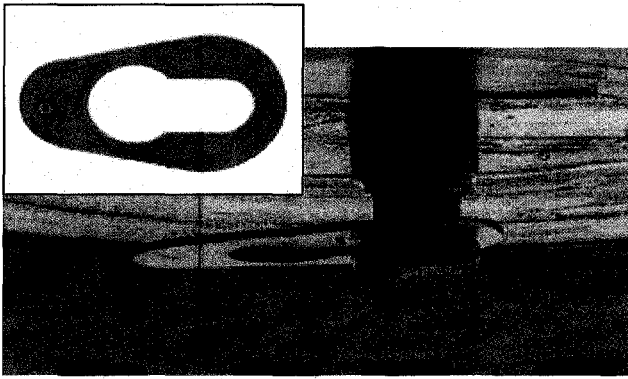
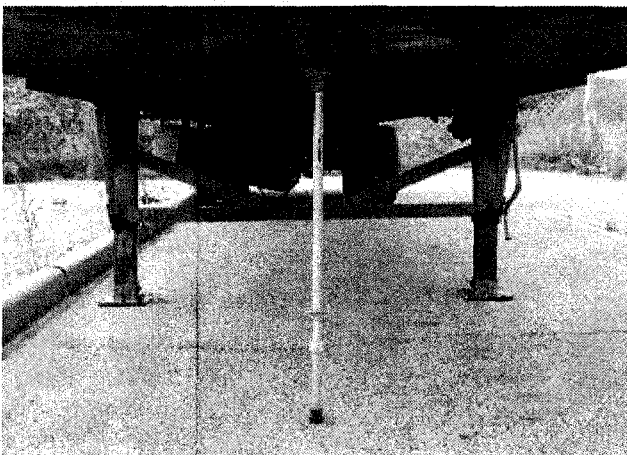

Figure 19: Kingpin adapter
Figure 20: Kingpin extender
- A. If this sightline is free from under-trailer obstructions that would interfere with a measurement (i.e., landing legs, trailer frame, tool boxes, etc.), then the kingpin adapter (Figure 19) can be used to make the measurement in Step 5.
- B. If this sightline is obstructed, then the kingpin extender or pogo stick (Figure 20) must be used to make the measurement in Step 5.
2. **Place** kingpin adapter (Figure 19) or kingpin extender (Figure 20) onto the kingpin.